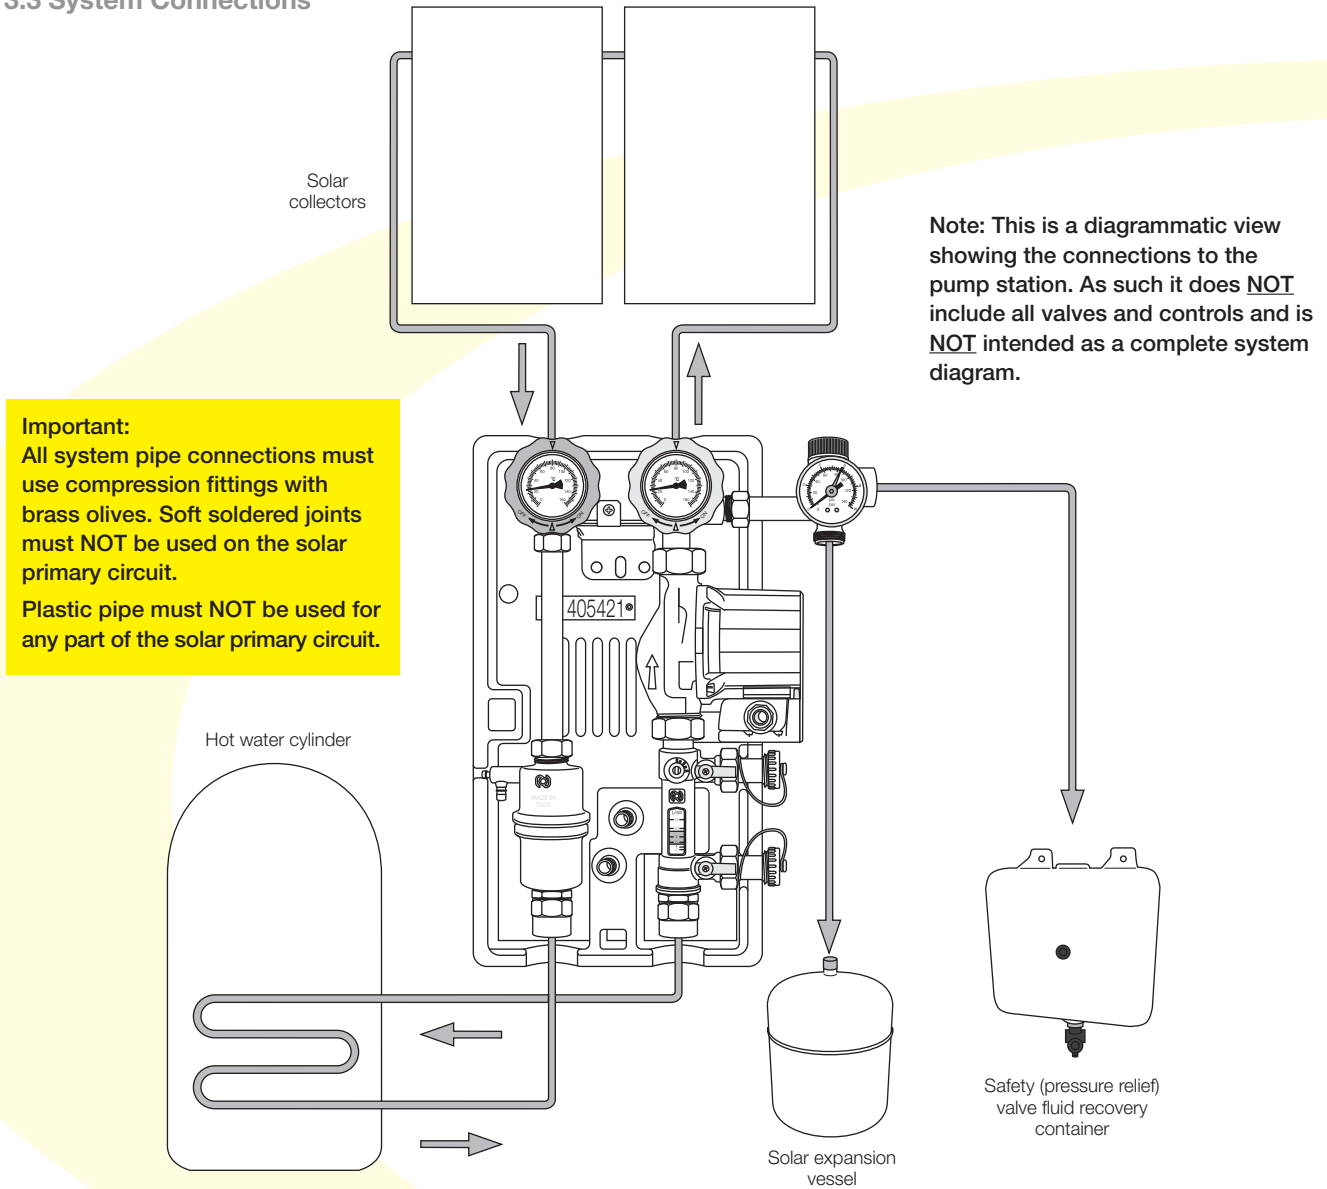

Figure 3-3: System connections to solar pump station
8. Connect the flow and return pipes. Refer to figure 3-3.
The expansion vessel must be located BELOW the connection on the pump station with the vessel connection pointing upwards. See Figure 3-3.